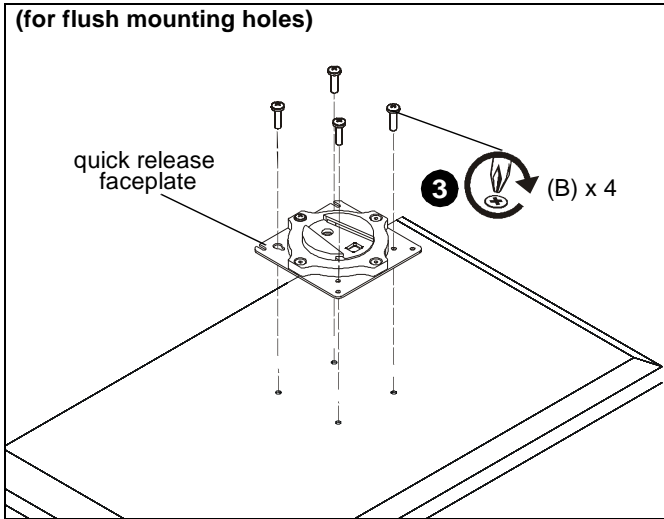

Figure 14
- Using Phillips screwdriver, carefully install four M4x10mm screws (B) through corresponding holes on faceplate and into the mounting holes on the display. (See Figure 14)